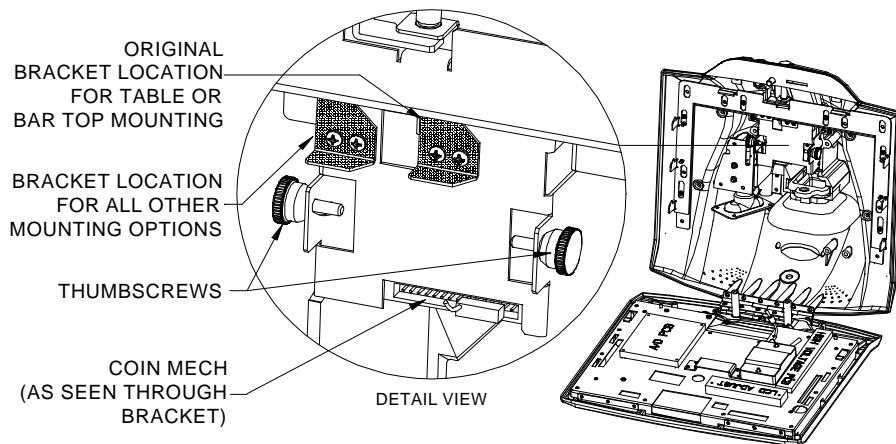

FIGURE 2 - VIBE WITH COIN MECH TERMINAL - DETAIL VIEW OF COIN MECH BRACKET
2. Loosen the 2 thumbscrews on either side of the coin mech bracket. See Figure 2.
3. Pull the coin mech towards the front of the terminal as far as it will go and tighten the thumbscrews to secure the mech in this position. See Figure 2.
4. The small bracket (secured by 2 screws) on the coin mech bracket must also be adjusted. Unscrew the 2 screws securing the bracket (see Figure 2) and move the bracket to the left as shown in Figure 2. Replace the 2 screws to secure the bracket.